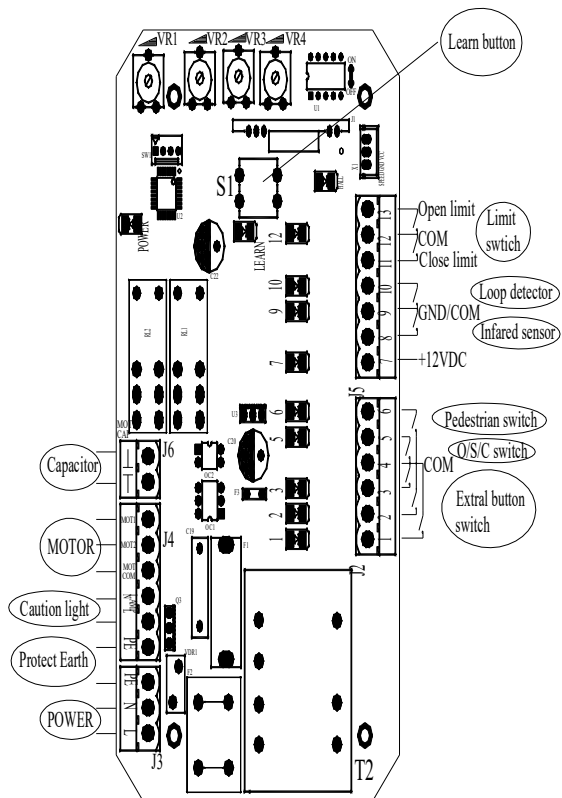

Fig.8
Remove the cover, perform the wiring (See Fig.8 and wiring notes for control board) and replace the cover again.
a. Adjust the Adjustable resistance (see Fig.8)
- Adding extra remote controls (Learn): Remove the cover, press and hold the learn button 'S1' (Fig.8) more than 2 seconds, then the 'LED of LEARN' (Fig.8) will be on, then press the remote control button which you want to use, the 'LED' will turn on about 2 seconds and then turn off again. The learning process is finished. Up to 25 remote controls may be used.